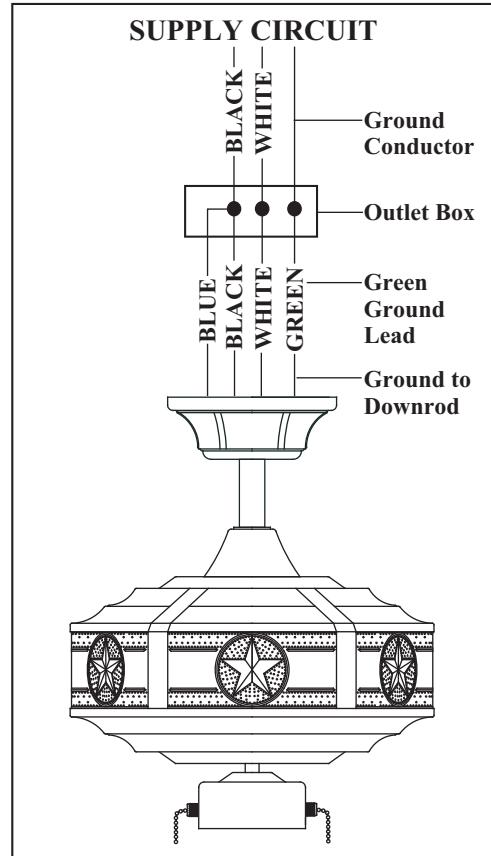

Figure 13
1. Connect the ground conductor of the 120V supply (this may be a bare wire or a wire with green colored insulation) to the green ground lead(s) of the fan. (Figure 13) When using standard ceiling mounting, there are two green grounding leads; one from the ceiling mounting bracket and one from the ball/downrod assembly. When using "Close-to-Ceiling" mounting, there is only one green ground lead from the ceiling mounting bracket since the ball/downrod assembly is not used.
2. Connect the fan motor white wire to the supply white (neutral) wire using a wire nut. (Figure 13)
3. Connect the fan motor black wire to the supply black (hot) wire using a wire nut. (Figure 13)